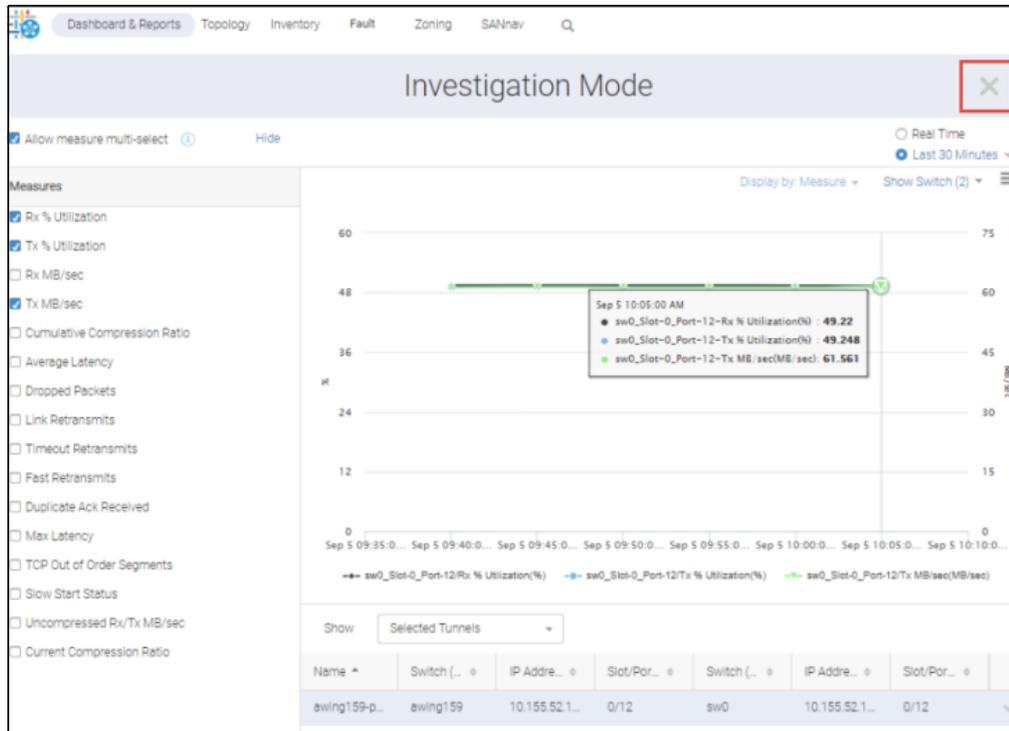

Figure 5-76 Investigation Mode dialog box for a tunnel
4. Using Investigation Mode, you can see trends over time. Figure 5-76 on page 175 shows the Investigation Mode dialog box for a tunnel. Click the **X** in the upper right of the window to return to the dashboard view, as shown in Figure 5-76 on page 175.